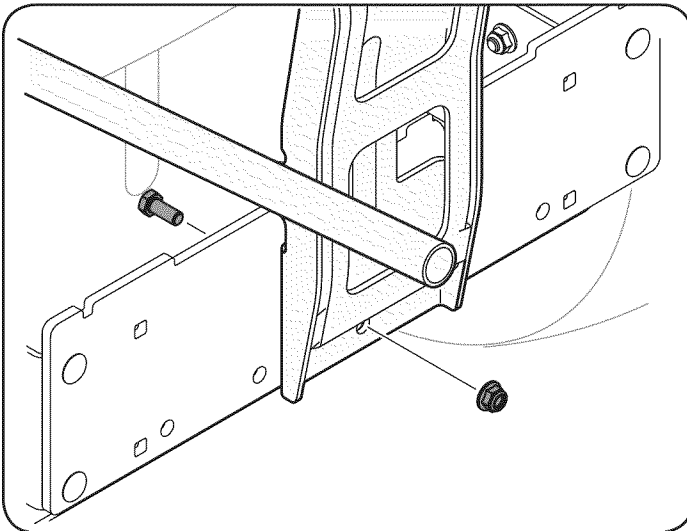

Figure 9
5. Secure the hanger assembly to the mounting assembly using a hex bolt (710-3008) and flange lock nut (712-04063) packed in with the upright support bracket. See Fig. 9.